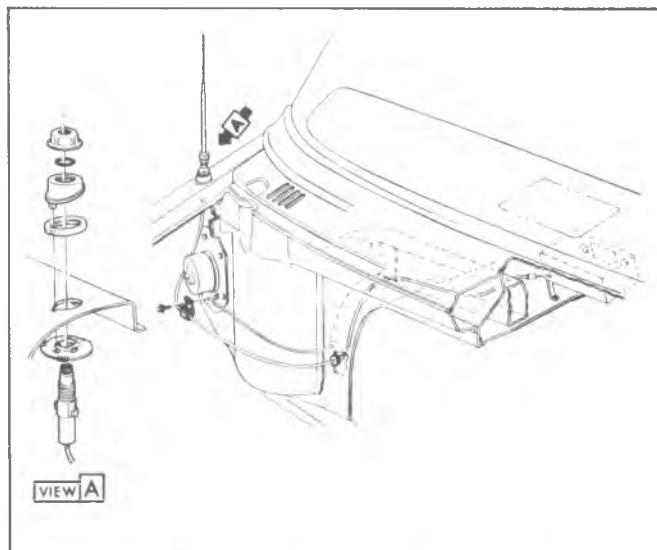

Fig. 6-Antenna Installation (G Models)
**G Models (Fig. 6)****Antenna Replacement**